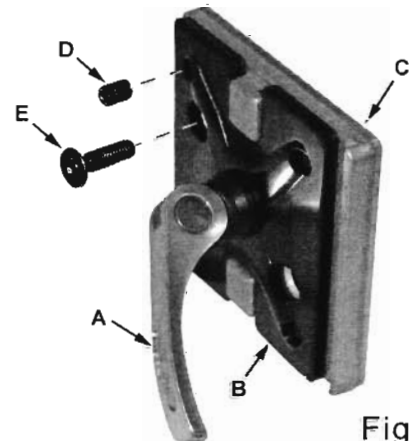

Figure 21
5. Using a 3mm hex wrench, make adjustments to four set screws (D, Fig. 21) accessible through openings located in the corners of the floating clamp block (B, Fig. 21).